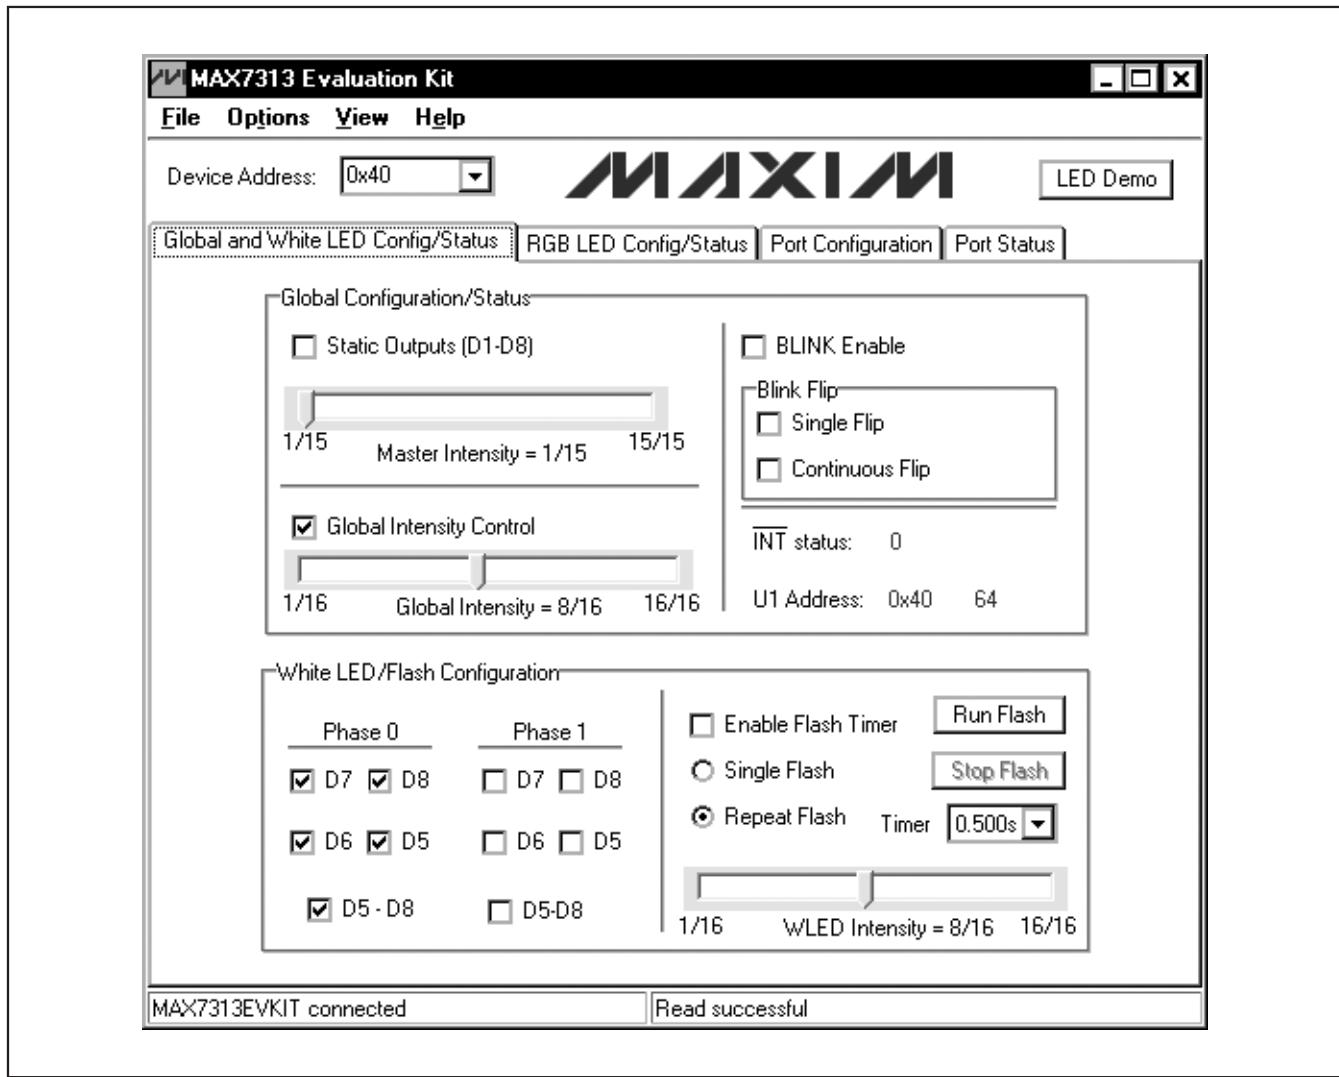

Figure 1. MAX7313 Evaluation Software Main Window (Global and White LED Config/Status Tab)
- 7) Start the EV kit software by opening its icon in the **Start | Programs** menu. The EV kit software main window should appear as shown in Figure 1.
Upon starting the program, the MAX7313 EV kit software establishes a connection with the EV kit's onboard interface and automatically detects the U1 serial address. Once a connection has been made, the software initializes the MAX7313 IC and starts up with the **Global and White LED Config/Status** tab selected (see Figure 1). When initialized, the IC is configured to operate with ports P0–P15 as outputs and port INT/O16 as an interrupt output. Table 1 lists the initialized state of the device registers.